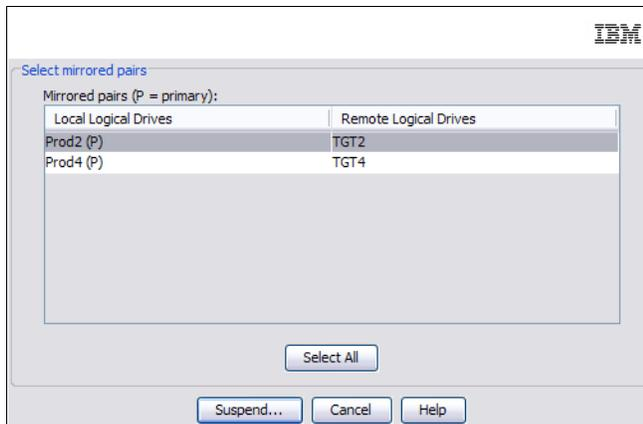

Figure 5-39 Suspend Mirrored Pair dialog box
2. The Suspend Mirrored Pair dialog box opens. The Select mirrored pairs area lists all primary logical drives in the storage subsystem. The primary logical drive that you initially selected is highlighted, similar to Figure 5-39.